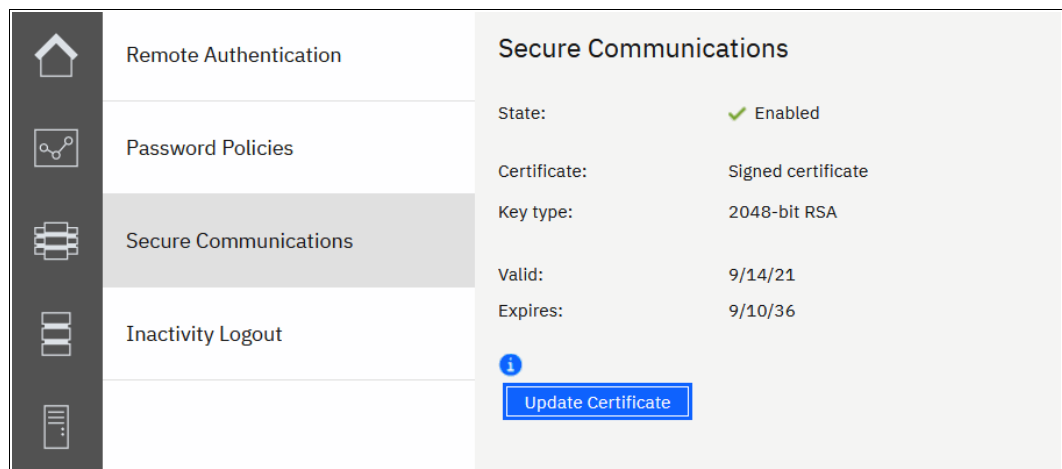

Figure 3-61 Signed certificate installed
8. Reconnect to the GUI and select **Settings** → **Security** → **Secure Communications**. The window that opens should show that you are using a signed certificate, as shown in Figure 3-61.